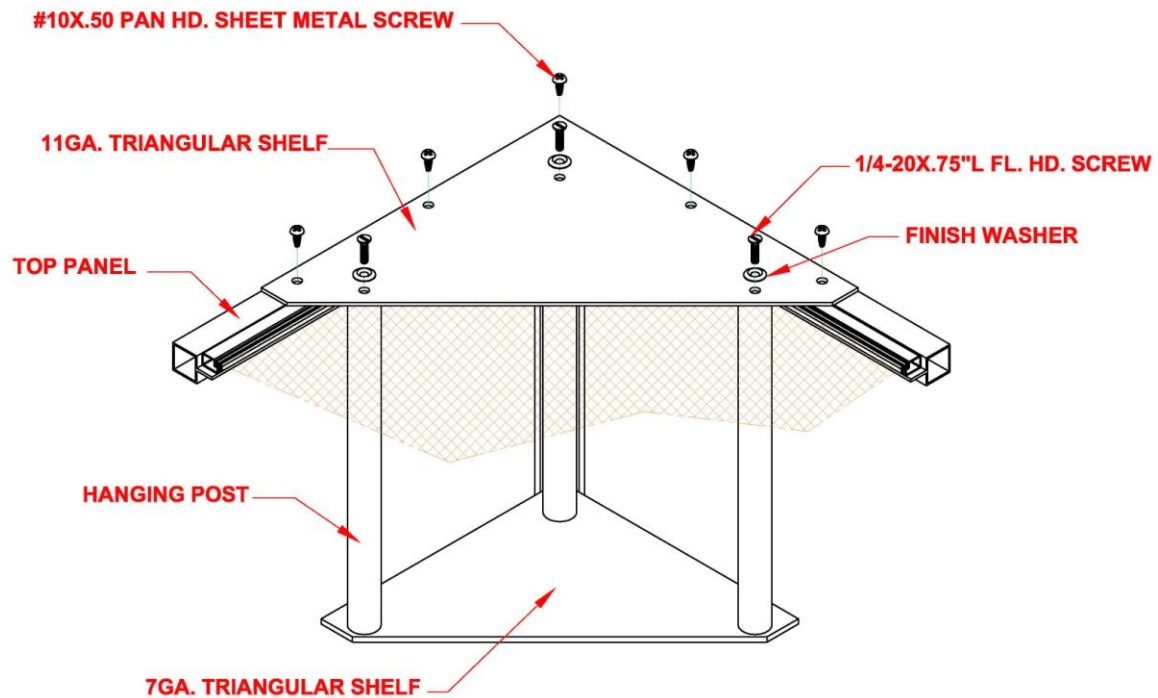

Figure 14. Optional hanging shelf.
1. Align the five 1/8" diameter holes on the 11GA. triangular shelf with matching holes on top corner of the faraday enclosure (refer Fig. 14). If adding to an existing faraday cage, align the plate with top corner of the faraday enclosure and mark and drill the 1/8" holes on the top panel.